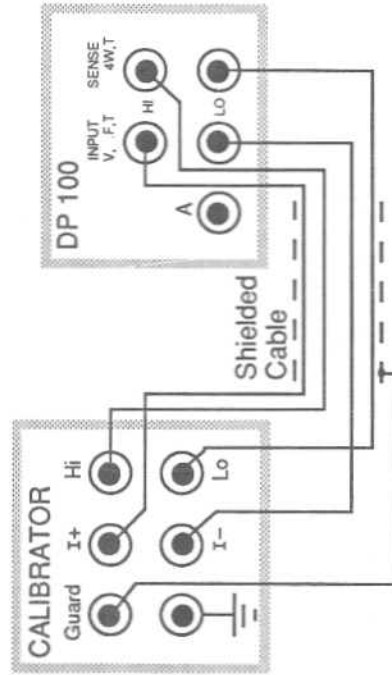

Figure 6-9. Connections for 4-Terminal Resistance
- h. To continue the calibration procedure, go to step (5)c. To conclude the calibration at this point, press FUNCTION ▼ repeatedly until the CAL due date is displayed (Table 6-4, step 23) and go to step (10)c.
- (5) Calibrate 4-terminal resistance
- c. Connect the calibrator to the DP 100 as shown in Figure 6-9.